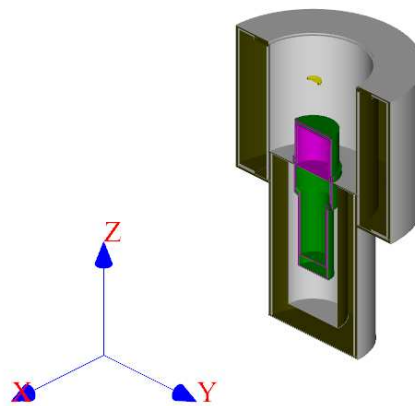

Figure 3. Isometric projection
- isometry projection. A view of the scene in the graphic area in the isometric view. As an example, the image of the detector in the protective chamber is shown in isometric projection (Fig. 3).